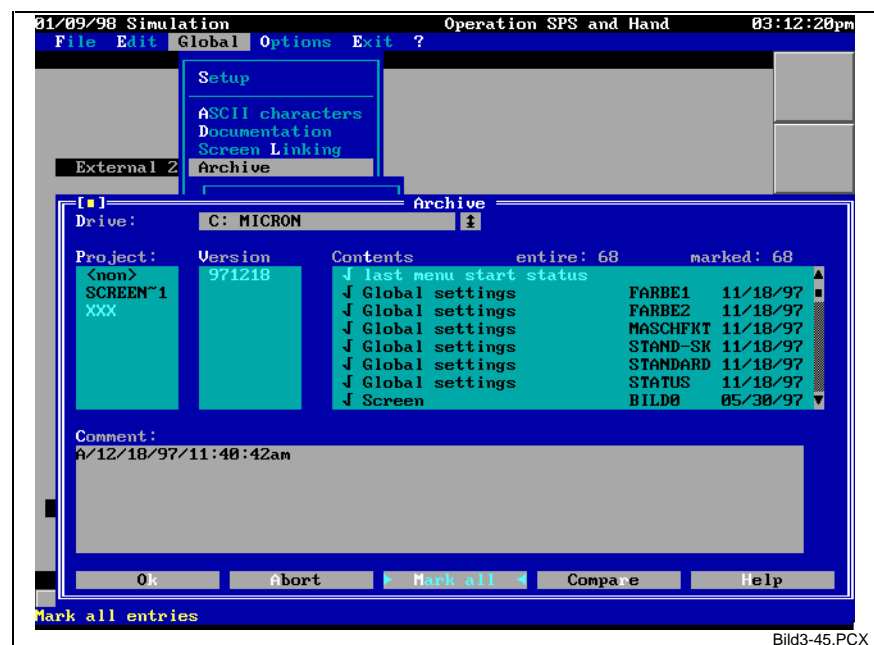

Fig. 3-45: Retrieving an archive
- Functionality** Individual or all files can be retrieved from an archive. All files that are to be retrieved must be marked (see Fig. 3-45). This can be done either directly in the list of contents using the <Space> bar or double clicking the mouse button, or automatically via the buttons 'Mark all' and/or 'Compare'. The 'Compare' button compares the files in the archive with the ones in the PC and marks all files that are only contained in the archive and/or are newer in the archive.
- Functionality** Any archive may be cleared. To select the archive, a window is opened that permits the archive contents to be viewed (see also Fig. 3-45). There is a safety request before the archive is cleared.
see Fig. 3-45